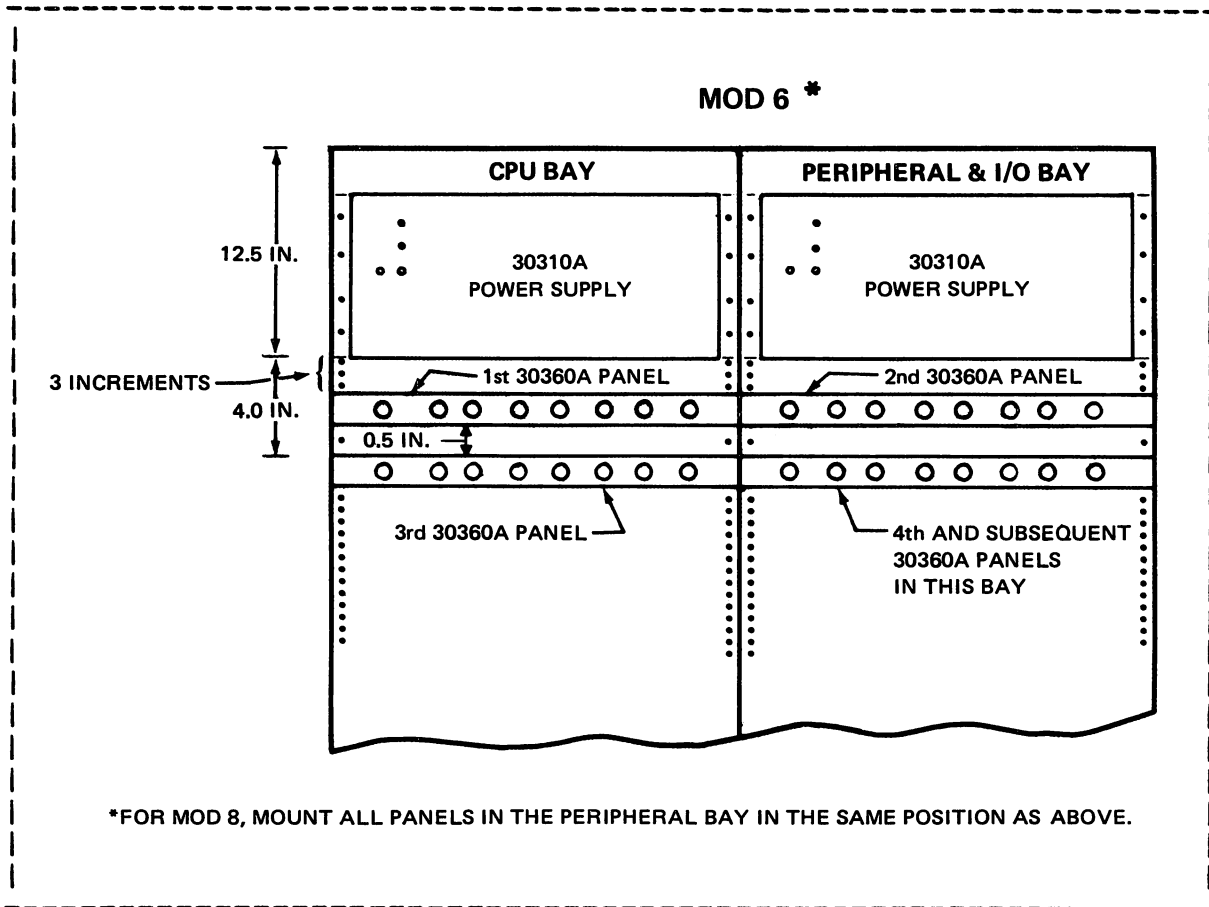

Figure 3-5. HSI Cable Assembly Panel Location
- a. Figure 3-5 shows the location for installing the connector panel.